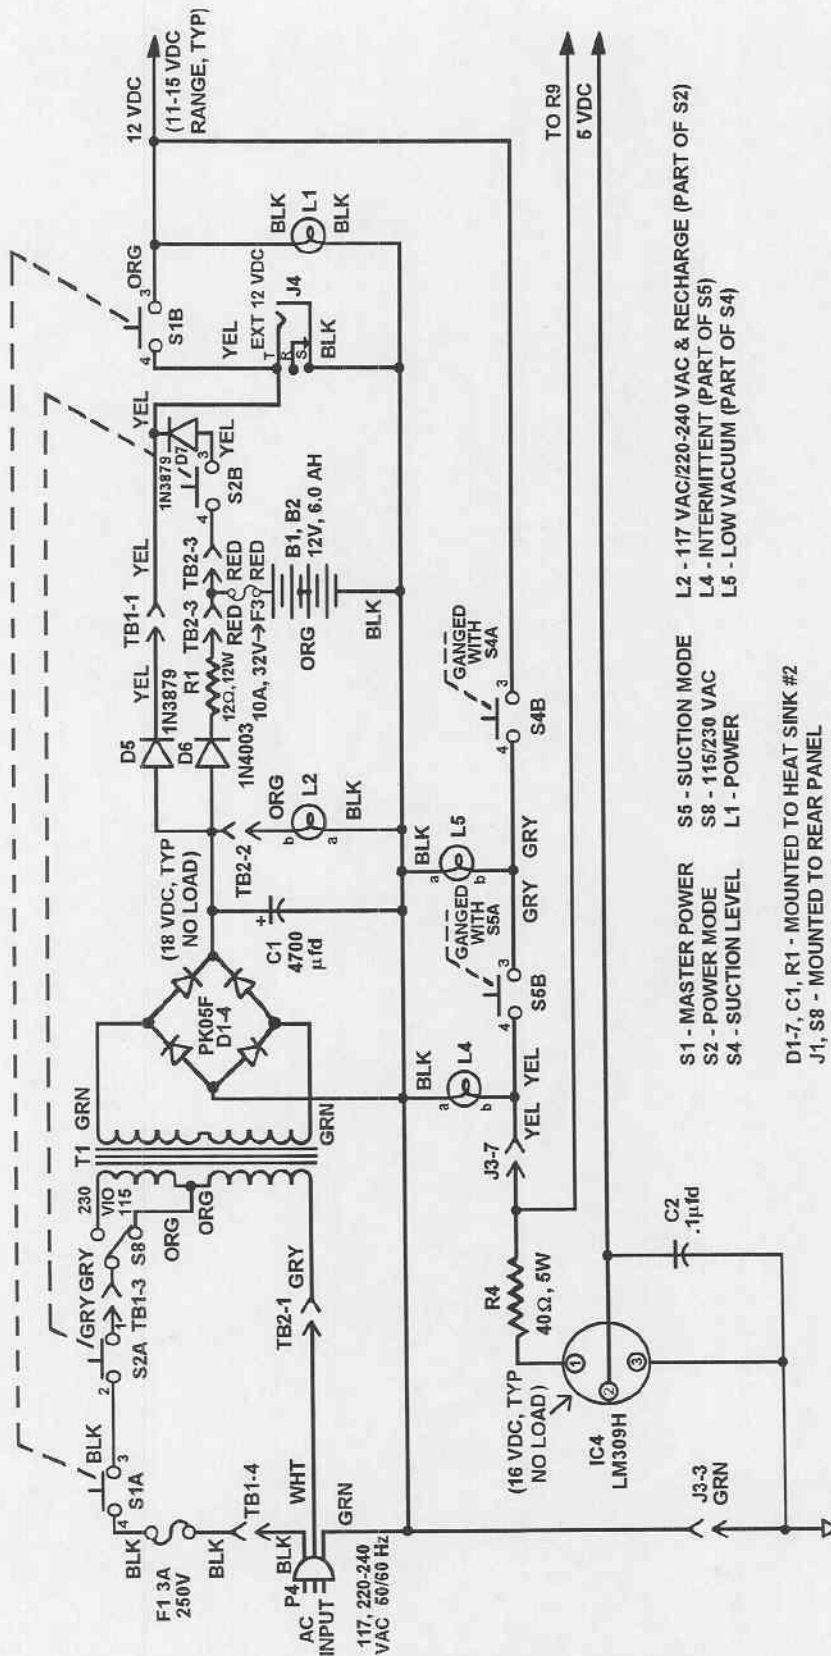

Figure 3-2. Power supply and charging circuit schematic.
### 3-18. AC to DC rectifier, power and charging circuits (fig 3-2).
### 3-20. Intermittent operation (fig 3-2).
c. *5-Volt power supply (fig 3-2).*
(1) Components R4, IC4 and C2 provide a regulated low voltage power supply for the intermittent timing and switching circuitry. Resistor R4 acts as a current limiter to the regulator input while C2 provides output voltage filtering of transient power surges.
(2) The regulator output is typically 4.8V at maximum low vacuum levels (motor off), approximately 3V during motor turn-on (initial surge), and rises to about 4.5V for the duration of the motor on cycle. All components are mounted to the PCB.